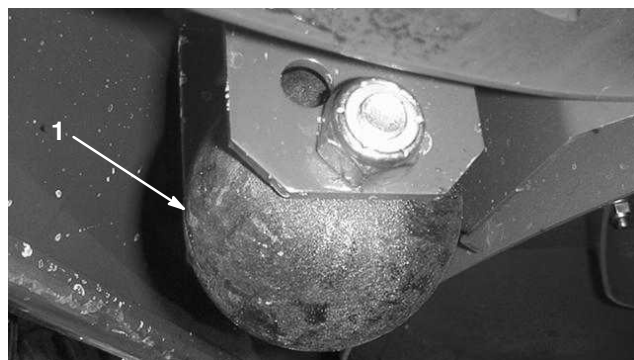

Figure 21
1. Remove the capscrew and nut securing the gage wheel to the cutting unit brackets (Fig. 21).